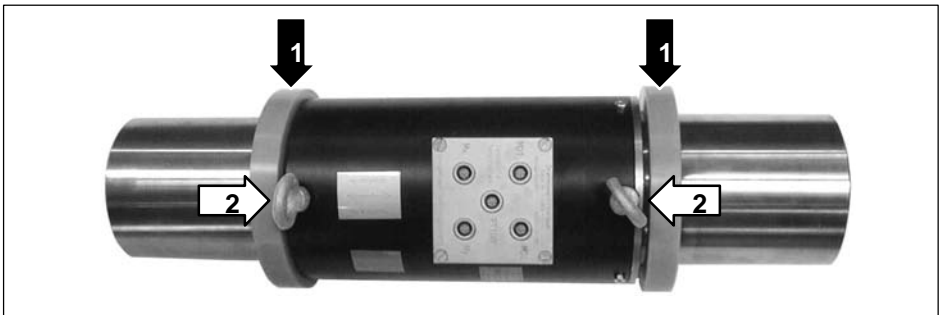

Fig. 6.3 Protective rings (1) and transport lugs (2), viewed from above
- **For nominal torques of 10 kN·m and 20 kN·m only:** Remove the protective plastic rings, see Fig. 6.3.
- **For nominal torques of 10 kN·m and 20 kN·m only:** Remove the transport lugs, see Fig. 6.3.